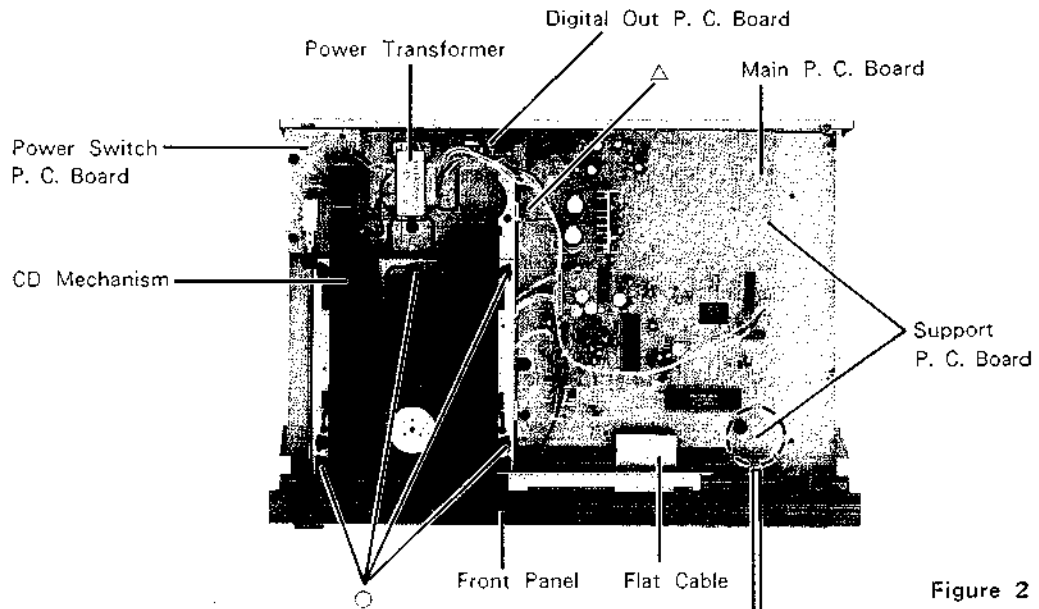
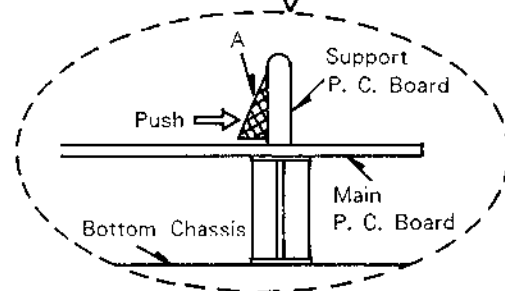

Figure 2
Figure 3
In Figure 2, the tracks 1 through 9 have already been played back, and track 10 is currently in playback. The number 10 is displayed near the "DISC" symbol ().
- (3) Remove four screws marked "O" as shown in Figure 2.
- (4) Disconnect all connectors from the CD Mechanism.
- (1) After removal of the tray panel, remove the front panel by disconnecting the flat cable from Main P. C. Board as shown in Figure 2.
- (1) After removal of the top cover, remove three screws marked "△" as shown in Figures 2 and 5.
- (2) Remove two P. C. Board supports from Main P. C. Board as shown in Figure 2, by pushing the point "A" as shown in Figure 3.
- (3) Disconnect all wires from Main P. C. Board.